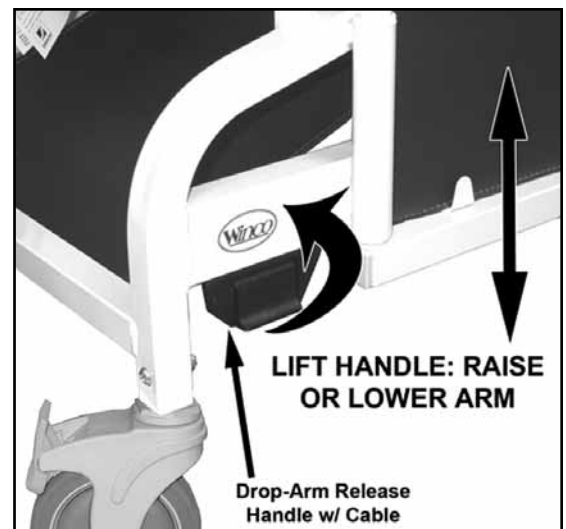

FIG. 5
RAISE/ LOWER DROP-ARMS (FIG.5)
1. **To Lower:** Grasp armrest in center; use free hand to LIFT the Drop-Arm Release Handle. Drop-Arm will disengage and you can then lower it to the fully dropped position. (**FIG. 5**)